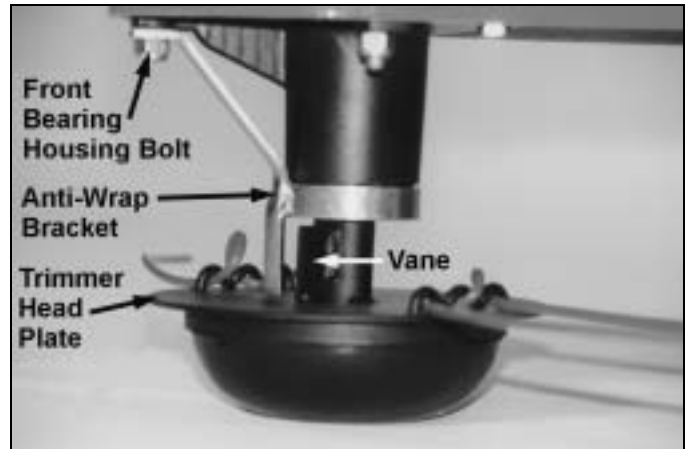

Figure 29
The Wagner Anti-Wrap Device was designed to reduce the amount of grass wrapping around the bearing housing shaft. It consists of the trimmer head plate, which has a "vane" welded to the shaft, and a bracket that fits around the shaft (*Figure 29*).
2. Remove the front bearing housing bolt which mounts the upper part of the bracket to the frame (*Figure 29*).